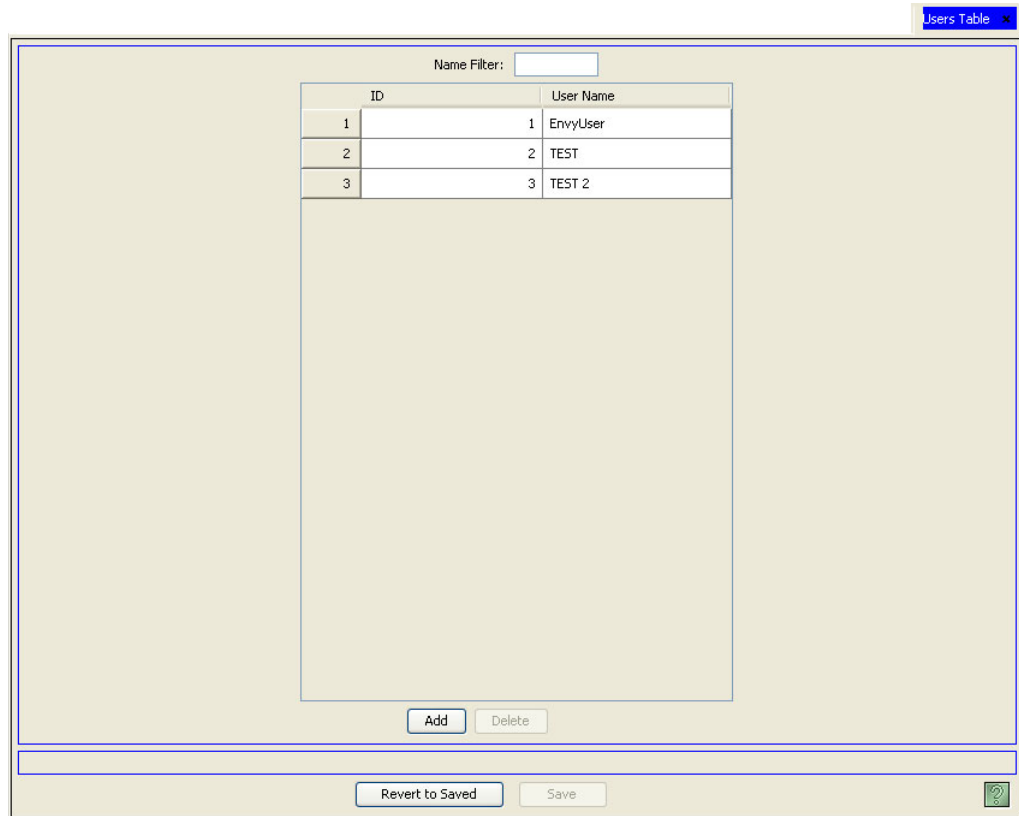

Figure 19-1. Users Table
- 1 From the Navigation area, select the 'Views' pane and then 'Users'. The 'Users' table appears, as shown in Figure 19-1.